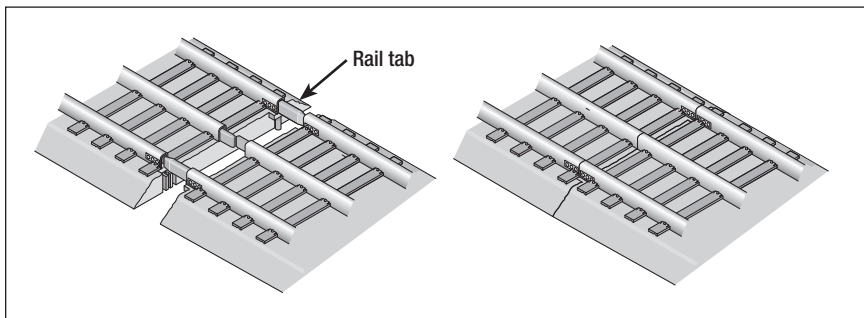

Figure 2. Joining the track sections
**F**asTrack track sections join together easily. With interlocking roadbed sections and large rail tabs, the track fits together securely so you always get good electrical contact. Take a look at Figure 2 to see how to join the track sections.